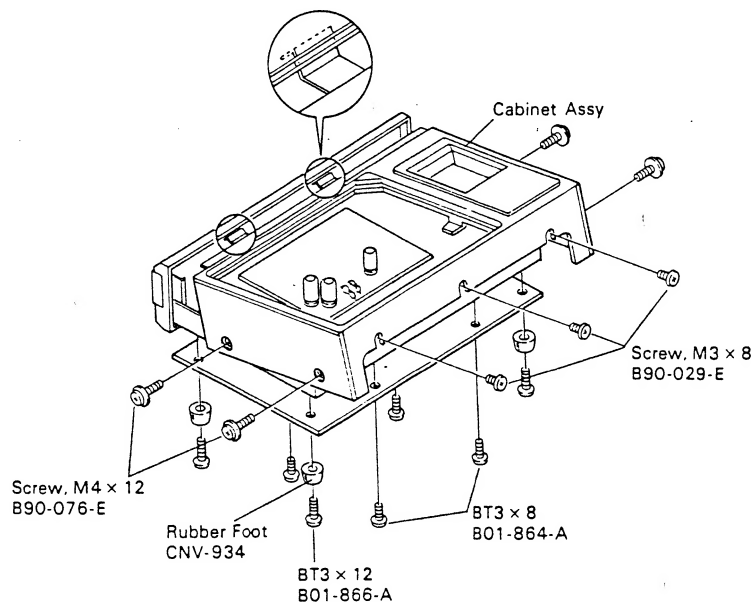

Fig. 5
3. Remove the Cabinet as shown in Fig. 5. The model of the figure is KH-8855.